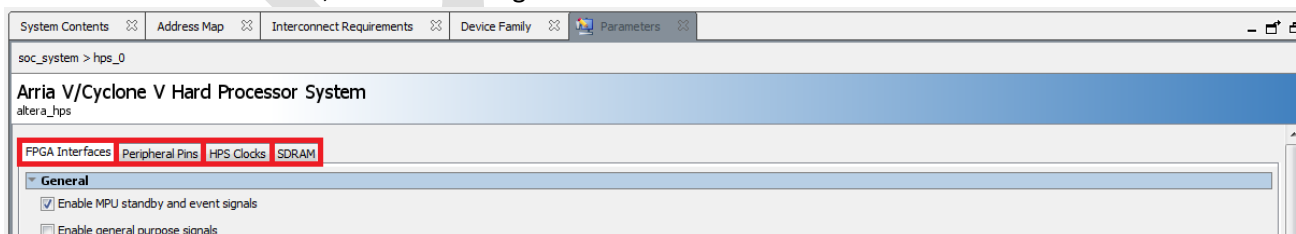

Figure 8-4. HPS Component Parameters
15. Open the HPS’ parameters and have a look around. There are 4 tabs that control various aspects of the HPS’ behaviour, as shown on Figure 8-4.